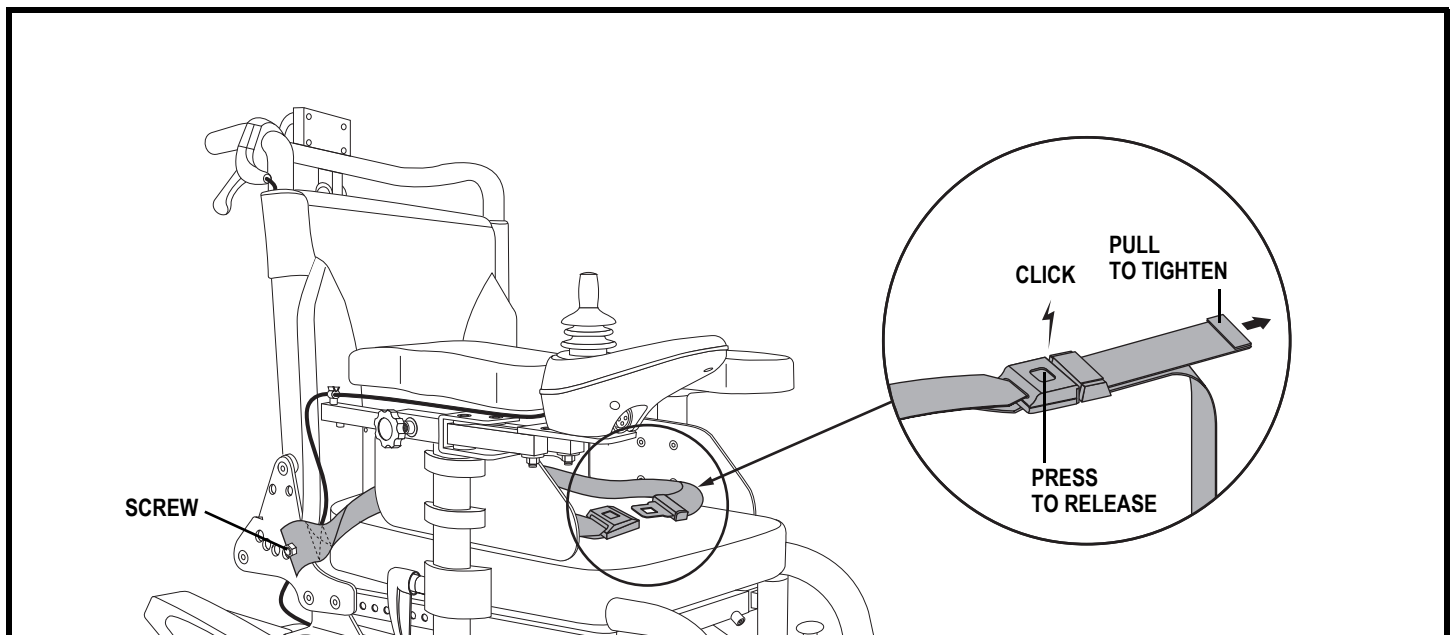

Figure 24. Positioning Belt Installation and Adjustment
Your power chair may be equipped with a positioning belt that can be adjusted for operator comfort. See **figure 24**. The positioning belt is designed to support the operator so that he/she does not slide down or forward in the seat. The positioning belt is not designed for use as a restraining device.
1. Insert the screw through the mounting tab at the end of the positioning belt and then through the seatback. See **figure 24**.